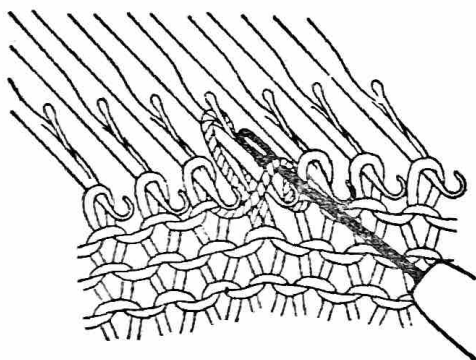

Fig. 30
2. Move the knitted (tighter) stitch behind the latch, the unknitted (looser) stitch remains in front of the latch (Fig. 30).